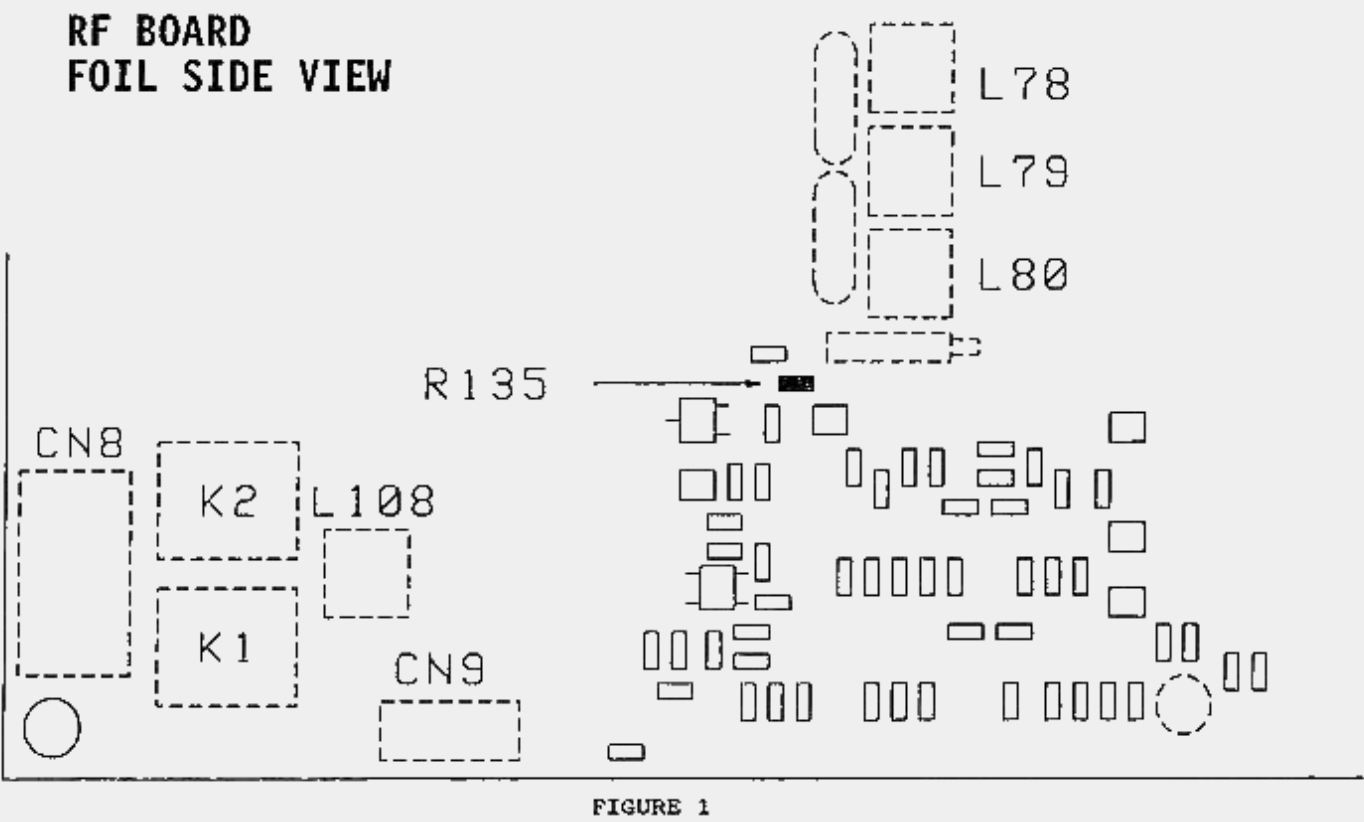

FIGURE 1
9. Locate chip resistor R135 as shown in figure 1.
6. Solder a 22 AWG jumper wire as shown in figure 1.